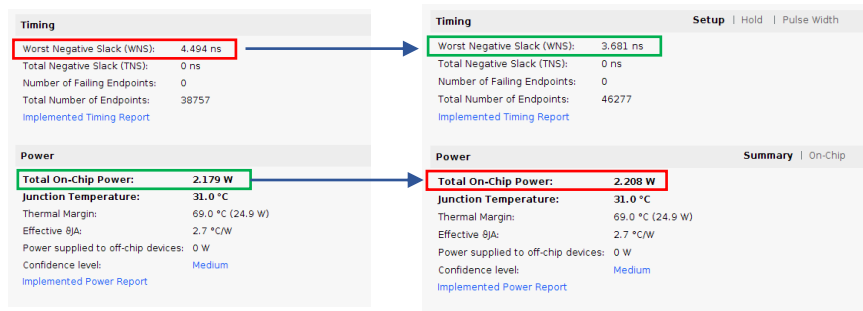

Figure-2 Timing and power report un-optimized and optimized design
- Total on-chip **power increased slightly** as well. Which was expected as no. of resource increased, they would utilize more power. Refer figure-2.